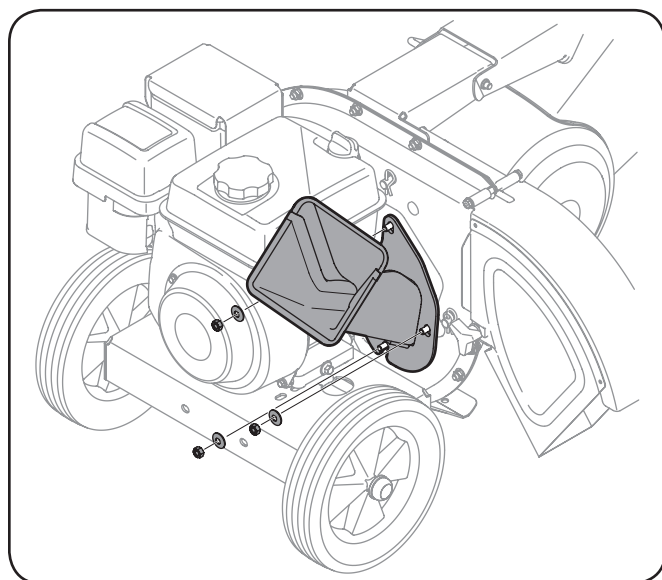

Figure 7-1
3. Remove the chipper chute by removing three hex nuts and washers. See Figure 7-1.